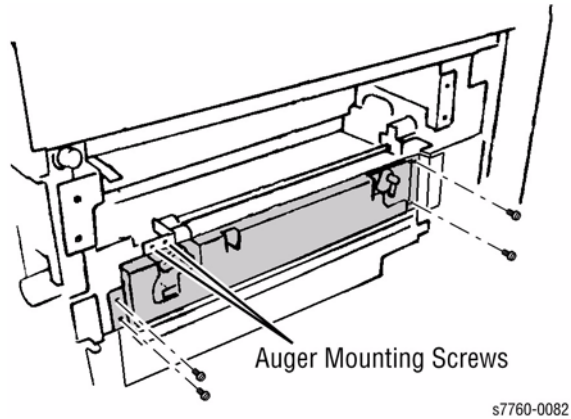

Figure 2 Removing Right IBT Cam Lift
12. Removing the Right IBT Cam Lift (Figure 2).